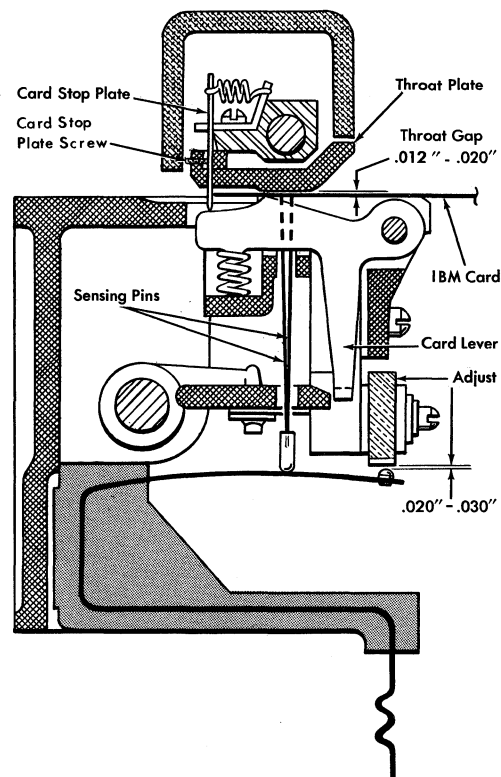

Figure 64. Pin Sensing Adjustment
2. Shim throat plate (bottom of eject unit) to adjust throat gap for .012-inch to .020-inch clearance (Figure 64). Check .012-inch clearance at closest point and .020-inch clearance at widest point. Replace throat plates worn beyond these dimensions. The .004-inch shim is P/N 121397, and the .010-inch shim is P/N 49901.
Adjustment of the card register plate is obtained with the card stop plate screw (Figure 64).
2. Remove contact cover (some machines do not have cover) and adjust common contact bar for minimum air gap of .015-inch and a maximum gap of .035-inch (Figure 64).